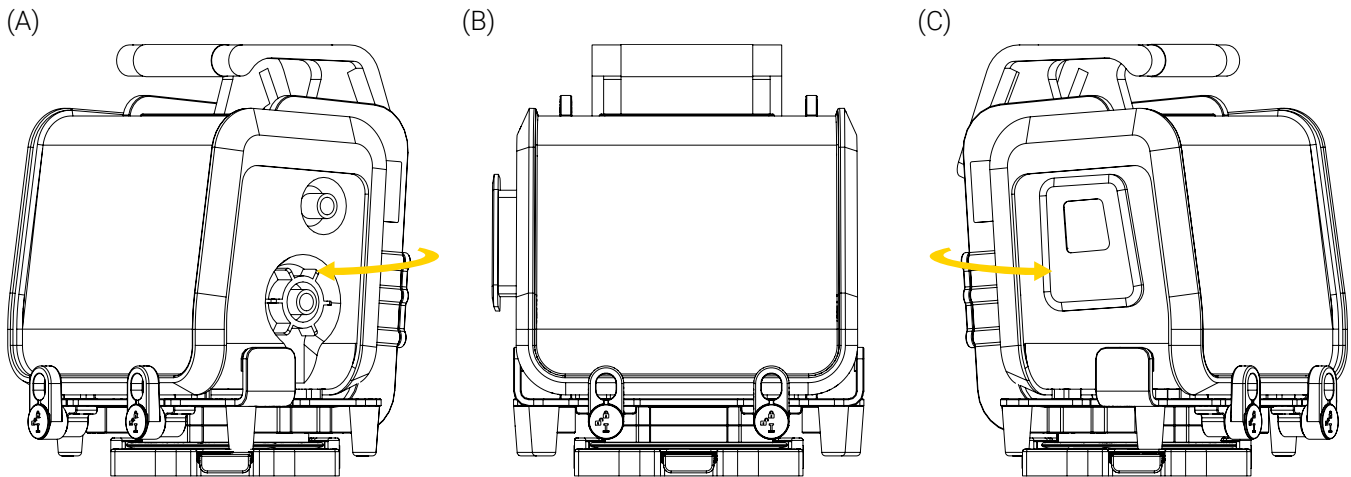

Figure 7: Rotating the mounting bracket on the Extended Surface Base
3. Turn the bracket up to 360° clockwise or counterclockwise to the desired position (Figure 7). Refer to the mounting bracket's user documentation if needed.